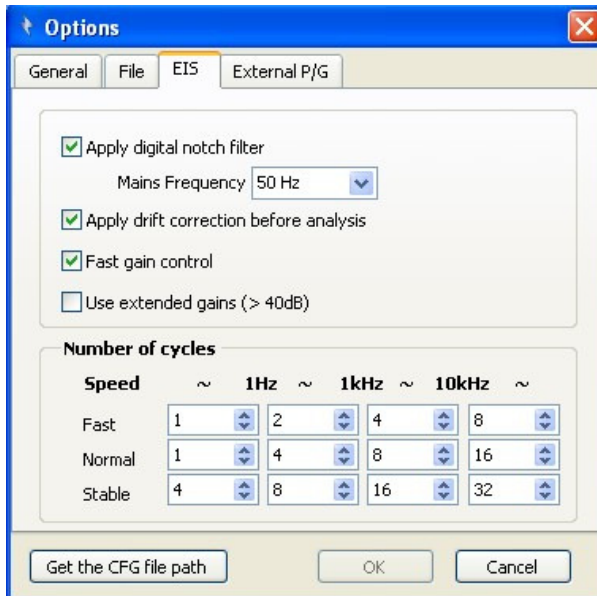

Figure 14 Options: EIS Menu
- **Automatically save data** selected, **Automatic file name** and **Data file format** are enabled. See Fig 14
EIS: See Figure 14